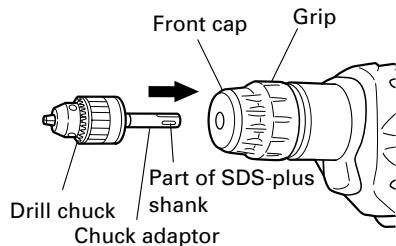

Fig. 10
- To drill a wood or metal material using the separately sold drill chuck and chuck adaptor, proceed as follows. Installing drill chuck and chuck adaptor (Fig. 10):
- (1) Attach the drill chuck to the chuck adaptor.
- (2) The part of the SDS-plus shank is the same as the drill bit. Therefore, refer to the item of "Mounting the drill bit" for attaching it.